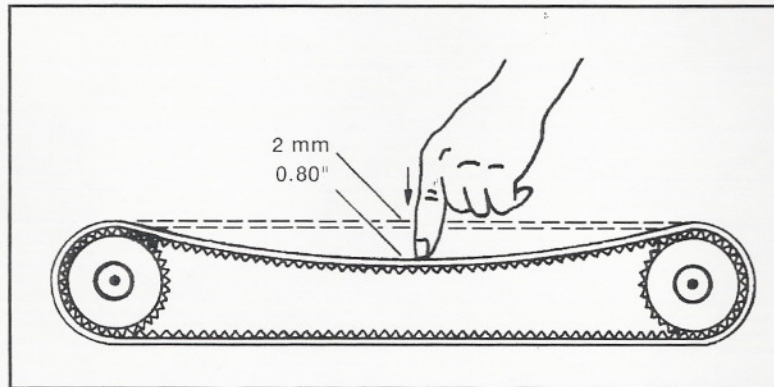

Figure 14: Belt Tension
3. Check all the tension of robot arm belts. When you press on a belt, the slack should be no greater than 2mm (0.08"). Refer to Figure 14.